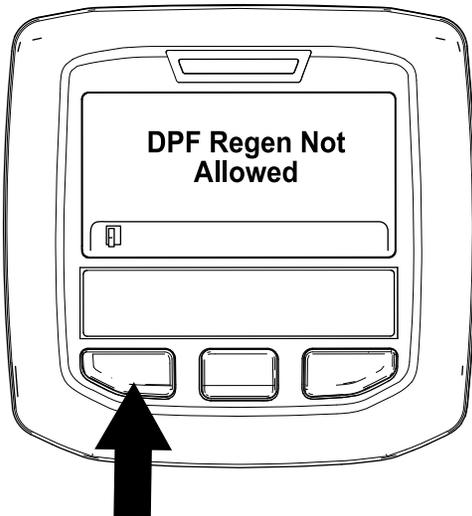

Figure 51
- If the regeneration process is not allowed by the engine computer, the “DPF Regen Not Allowed” message displays in the InfoCenter (Figure 51). Press the left button to exit to the home screen